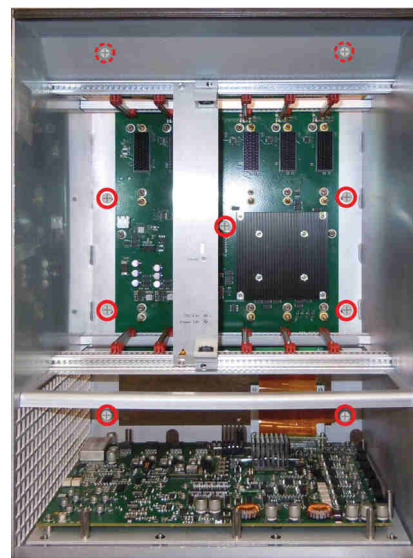
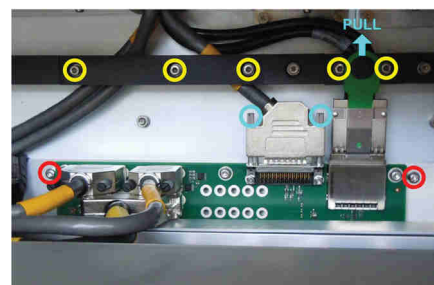

Fig. 7.30 Screws
Fig. 7.31 Support and cables
- 6 Using screwdriver (tools 1/5), loosen 10 captive screws/washers fixing the Crate Assy to the back plate. The location of these is shown with red circles in Fig. 7.30 (p. 135). The two upper screws (dotted red circles) are accessible above the Crate Assy (marked with red circles in Fig. 7.31 (p. 135)).
- 8 Using Allen 3 mm screwdriver (tools 1/3), remove 5 screws and washers holding two cable supports - shown with yellow circles in Fig. 7.31 (p. 135). Remove the two cable supports.
- 9 Referring to Fig. 7.31 (p. 135), pull the green ring upwards on the rightmost connector to release it from the Motherboard (light blue arrow).
- 12 Mount the connectors removed in step 9 and mount the cable supports removed in step 8 (Fig. 7.31 \(p. 135\)).